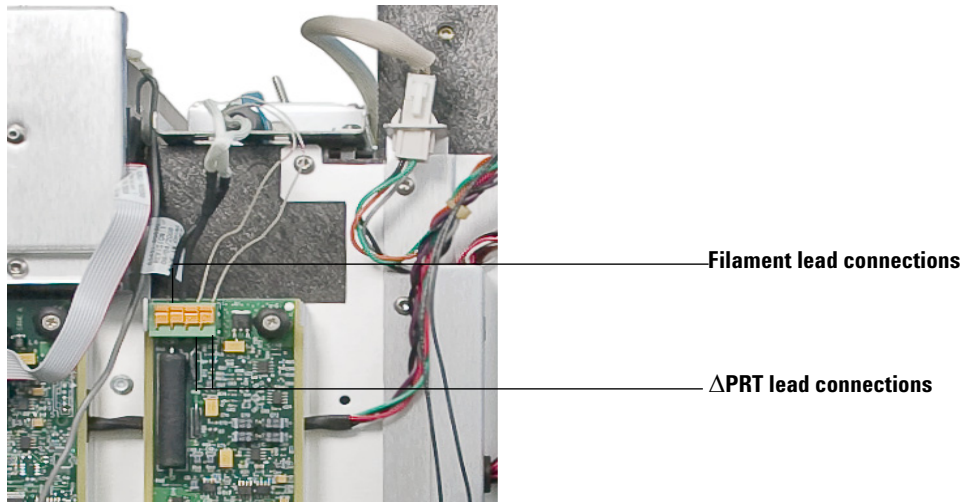

**Figure 6** Locating the appropriate position for the TCD board installation
- 2 Position the TCD board in the frame directly under the detector position. (See Figure 6.)